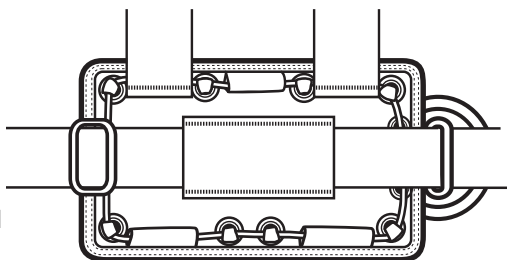

Figure 8
5. The weight release cables must pass through each of the pocket assembly mounting loops. Pull each mounting loop through the grommets and thread the cable through the loop. See Figure 8.